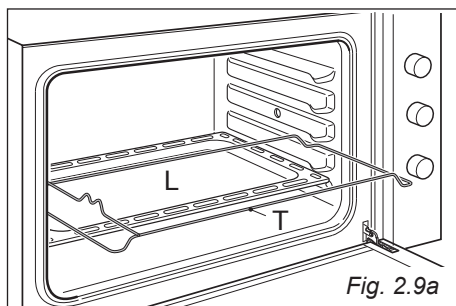

Fig. 2.9a
- Insert the tray “L” into the lowest rack holders of the oven and insert the rod support “T” into the intermediate rack holders (figs. 2.9a - 2.9b).